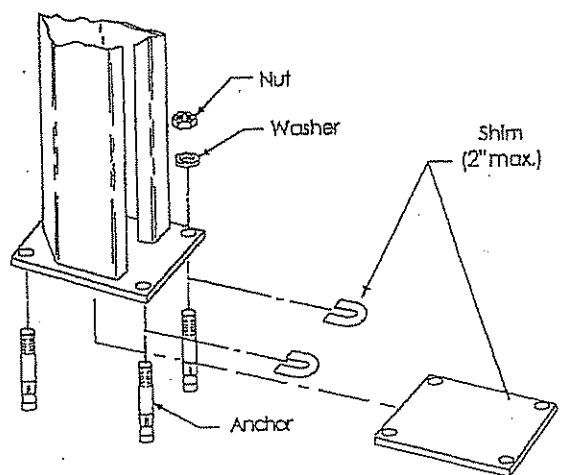

Fig. 12
- C. Use shims provided to shim column base to plumb columns, first fore and aft then side to side. Use a 4' spirit level to check plumb of columns. Maximum shim thickness is 2", Fig. 12. If more shimming is required, consult factory for different shim package including longer anchor bolts.